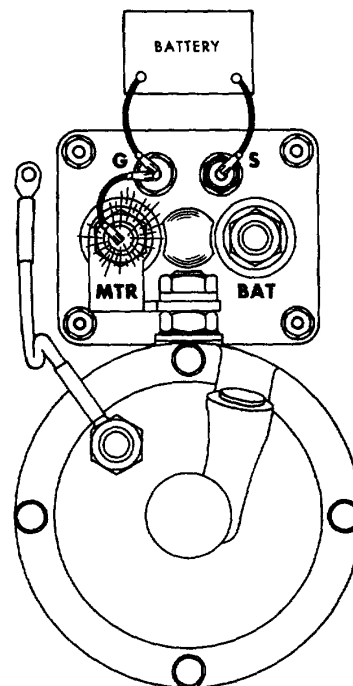

Fig. 7 - Checking Pinion Clearance Circuit.
1. Make connections as shown in Fig. 7.